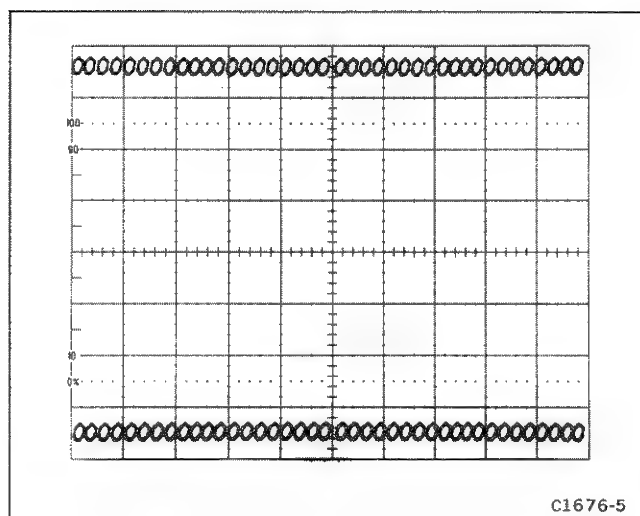

Figure 5-2. Readout display with Q2225 removed.
- EXAMINE**—the crt display for two rows of zeros centered horizontally within the graticule area. See Figure 5-2.